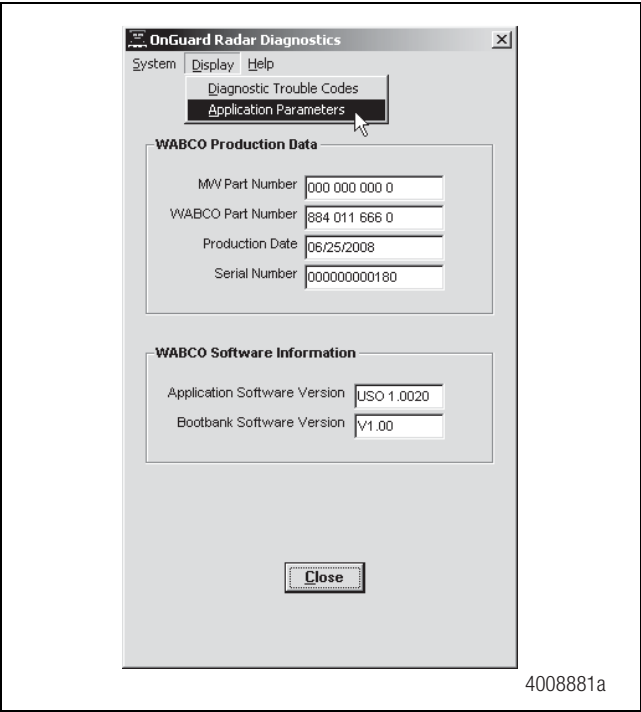

Figure 2.19
2. From the pull-down menu, select “Application Parameters” to bring up the “Application Parameters” screen. Figure 2.19.